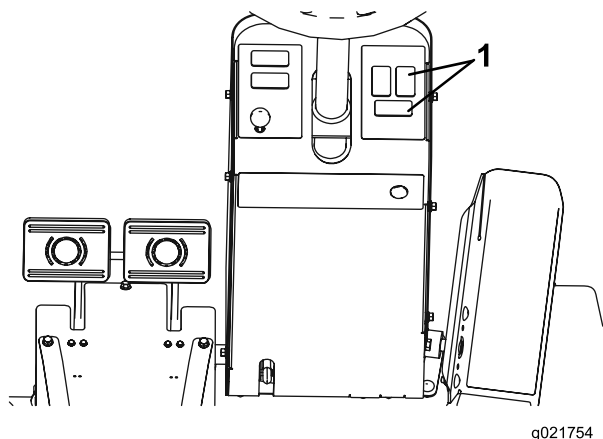

Figure 3
1. From the under side the steering tower dash panel, press the plugs out of the holes shown in Figure 3.